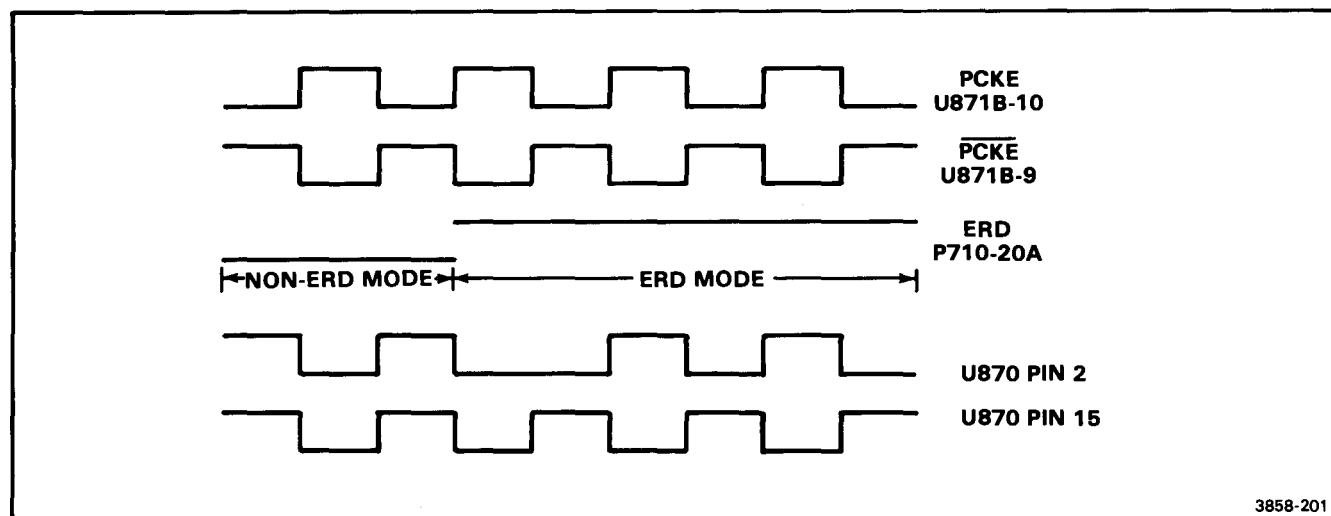

Figure 2-7. Generation of non-ERD and ERD CCD modes.
The phase clock (PCKE and $\overline{\text{PCKE}}$), ERD and fast-in (FI) signals provide the basic timing and control for the CCD clock signals. Line receivers U871B and U871C, and quad-OR gate U870, decode the PCKE, PCKE and ERD signals into two CCD clock signals at pins 2 and 15 of U870 (see Fig. 2-7).